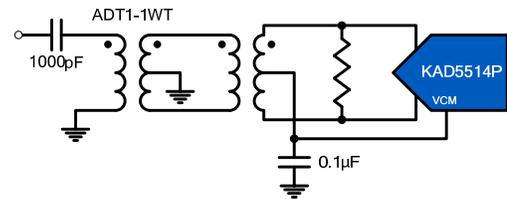

Figure 31. Transformer Input
Best performance is obtained when the analog inputs are driven differentially. The common mode output voltage, VCM, should be used to properly bias each input as shown in Figures 31 through 33. An RF transformer will give the best noise and distortion performance for wideband and/or high intermediate frequency (IF) inputs. Two different transformer input schemes are shown in Figures 31 and 32.